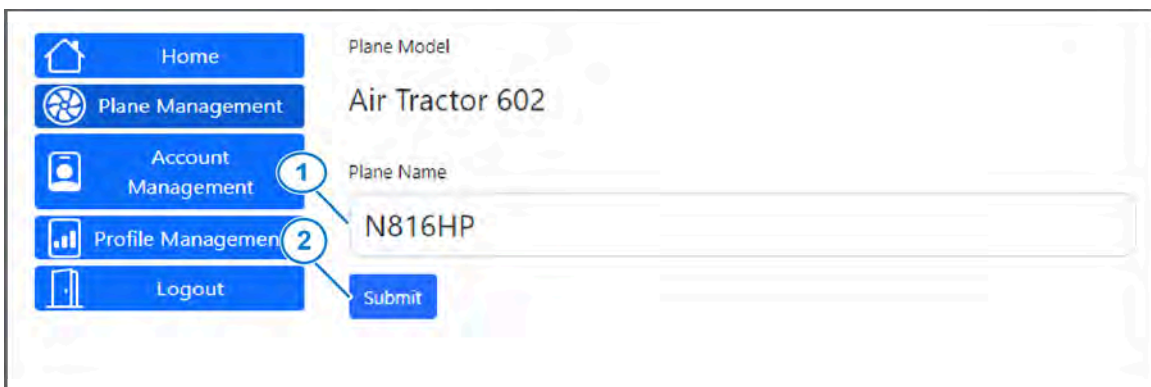

Figure 17: Edit a Plane Name
3. Select the box (Figure 17, Item 1) below **Plane Name**.
5. Select **Submit** (Figure 17, Item 2).